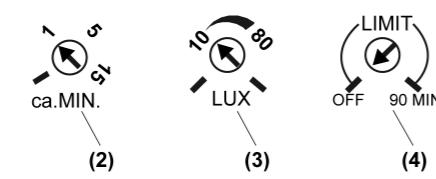

Figure 3: Power pack adjuster
- Turn the MIN adjuster (2) to the required position (Figure 3).
- Turn the LUX adjuster (3) to the required position (Figure 3). A setting of approx. 10 lux activates the device at the start of twilight. For switching independent of brightness, turn the adjuster to the far right.
- Turn the LUX adjuster (3) to the required position (Figure 3).
- Turn the LIMIT adjuster (4) to the required position (Figure 3).